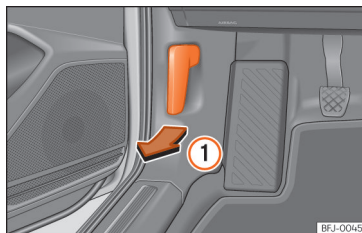

Fig. 232 Release lever in the driver's footwell area.
- Open the door and pull the lever that is underneath the instrument panel »»» Fig. 232 (1).